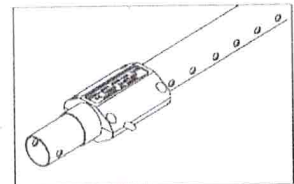

Figure 5
- A. The Auto-Lok Tube allows you to make small adjustments to the overall length of the stretcher tube section quickly and easily. Simply push back on tubes to extend. Press in on the two buttons and pull back on the tubes to shorten. (See figure 5)